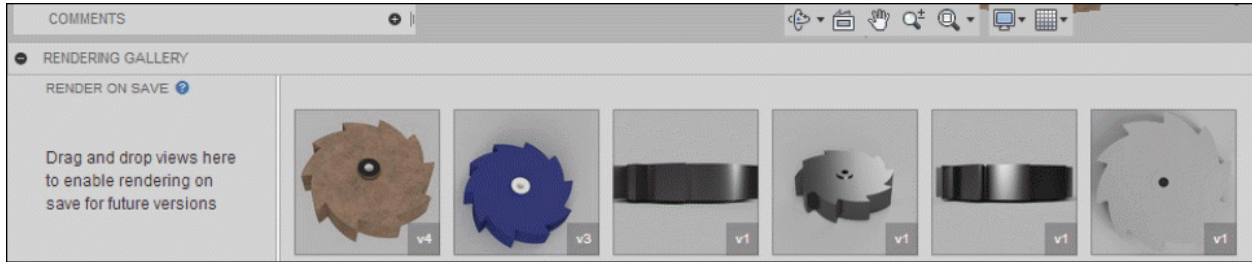

Figure-25. RENDERING GALLERY
- The completed rendered file will be saved in **RENDERING GALLERY**; refer to Figure-25.